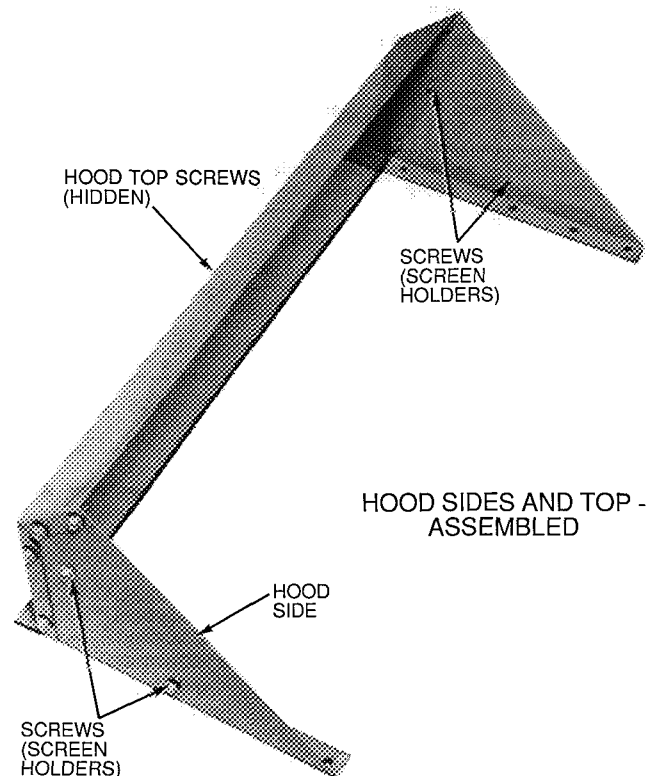
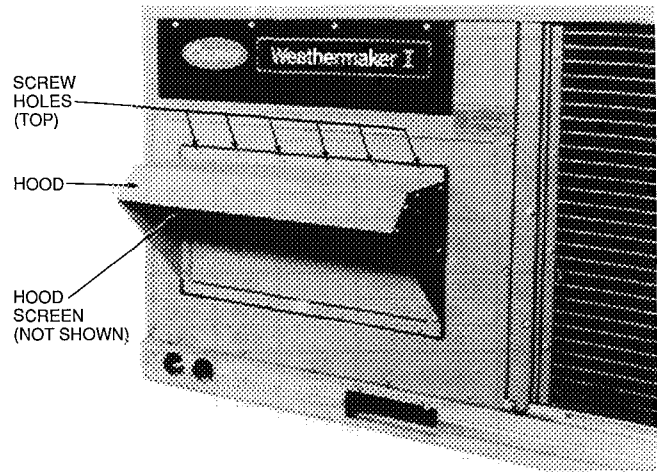

Fig. 13 – Outdoor-Air Hood Details
Fig. 14 – Damper with Hood Attached
5. Place hood on front of evaporator coil access panel. See Fig. 13 for hood details. Secure top of hood with the 6 screws removed in Step 3. See Fig. 14.
7. Align screw holes on hood with screw holes on side of manual outdoor-air damper. See Fig. 13 and 14. Secure hood with 8 screws from Step 6.
9. Remove and save screws currently on sides of hood. Insert screen. Secure screen to hood using the screws. See Fig. 14.
6. Place hood on front of evaporator coil access panel. See Fig. 13 for hood details. Secure top of hood with the 6 screws removed in Step 3. See Fig. 14.
8. Align screw holes on hood with screw holes on side of two-position damper. See Fig. 13 and 14. Secure hood with 8 screws from Step 7.
10. Remove and save screws currently on sides of hood. Insert screen. Secure screen to hood using the screws. See Fig. 14.